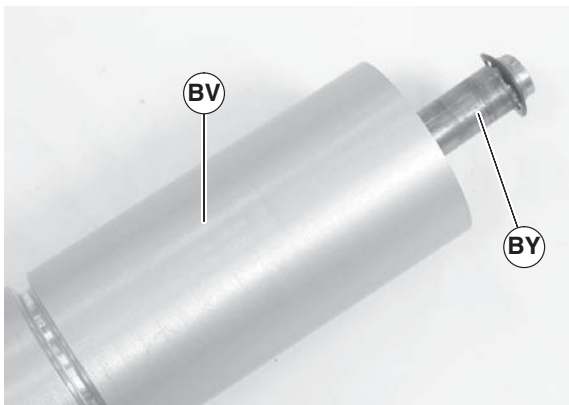

Figure 52
6. Slide the shaft assembly (Figure 52, item BY) out of the pulley (BV).